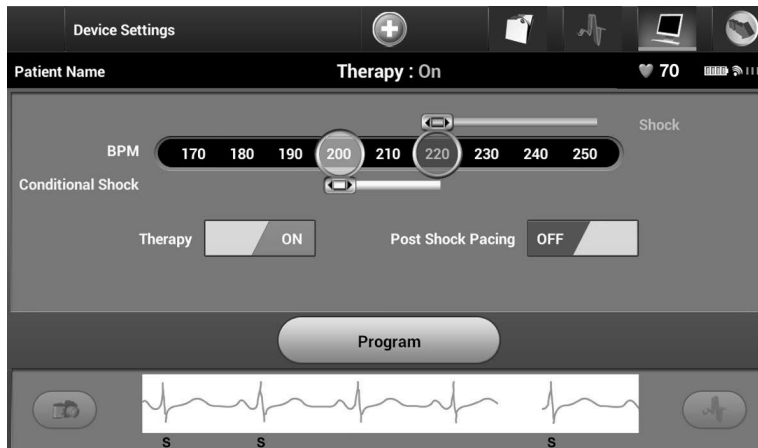

Figure 31: *Setting the On/Off Therapy switch*
4. Select the On/Off Therapy switch to set the desired therapy mode (Figure 31).